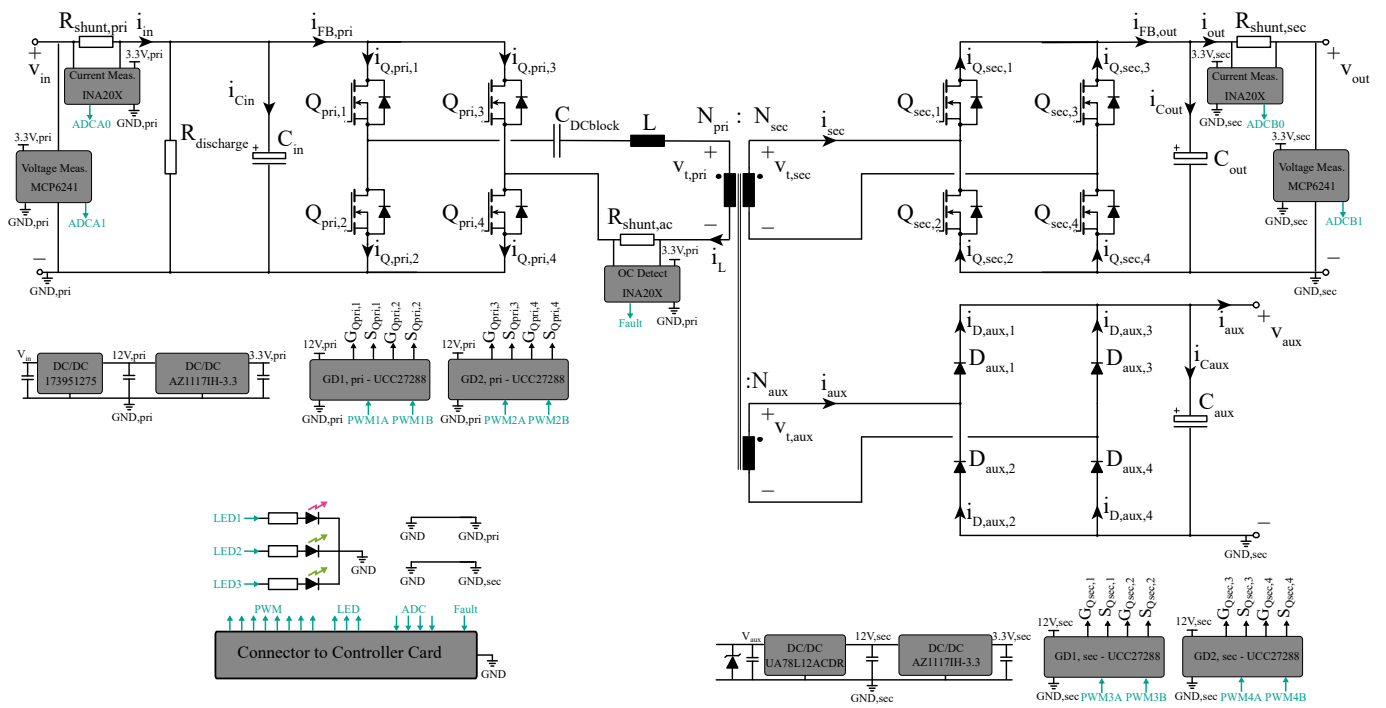

Figure 1 Circuit diagram of the DAB converter.
In this third part, the project addresses the schematic and PCB design of the Dual Active Bridge (DAB) converter according to the specifications assigned to your group. **Fill out Table 1** with the parameters assigned to your group. In this report, you will complete the selection of all necessary components and populate the provided schematic and PCB layout using Altium Designer. The concept of the complete schematic of the DAB converter is illustrated in Fig. 1.
- Before proceeding with the report, according to Fig. 1, populate the power-stage part of the schematic diagram with the components in the bottom of the schematic. For the semiconductor devices, add the part number of the selected devices in the comment of the device model.